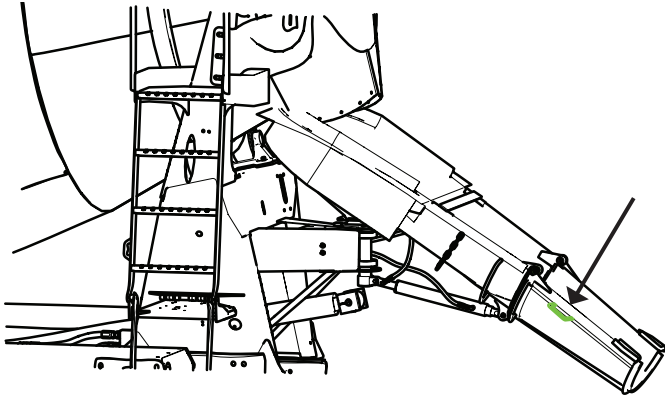

Figure 112
3. Slowly lower the chute into operation position (Figure 112).
1. Grip the fold-over chute using the correct hand-holds (Figure 112).